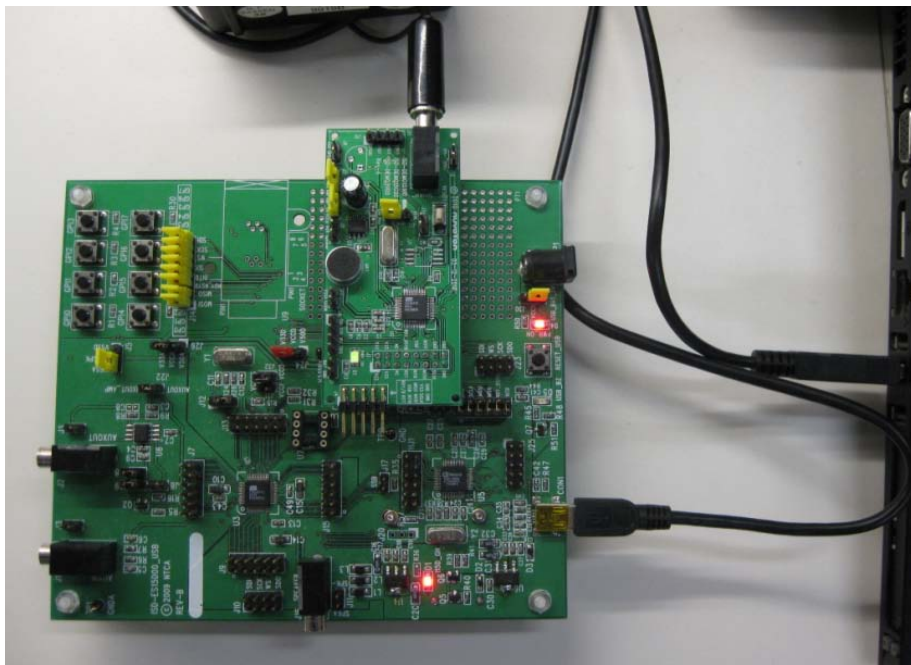

Figure 7 – ISD-DEMO15100 is connected onto ISD-ES15D00_USB mother board
- o ISD-DEMO15100 + the big ISD15XXX evaluation board, shown in **Figure 7**.